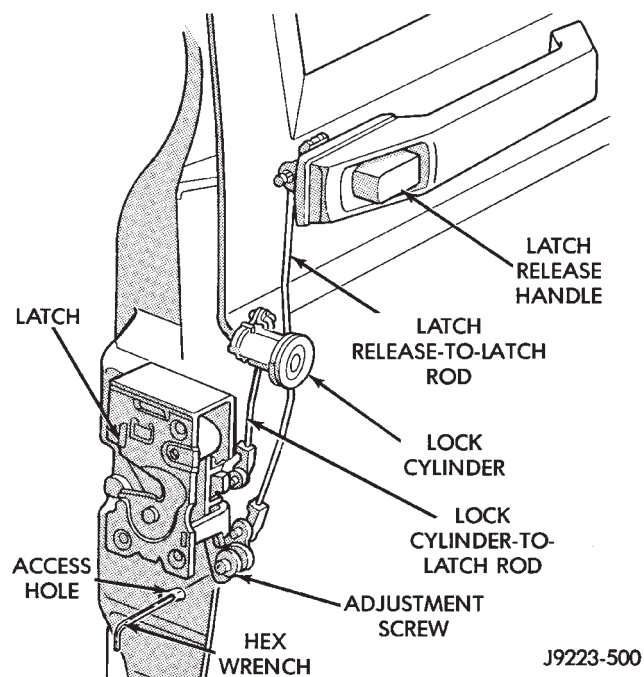

Fig. 14 Door Latch Adjustment
- (1) Locate access hole (Fig. 14).
- (2) Insert a 5/32-inch hex-wrench through hole and into adjustment screw (Fig. 14). Loosen screw.
- (3) Operate outside handle button several times to release any restriction because of mis-alignment.
- (4) Tighten adjustment screw to 3 N•m (30 in-lbs) torque.
- (5) Test handle button and lock cylinder for proper operation.